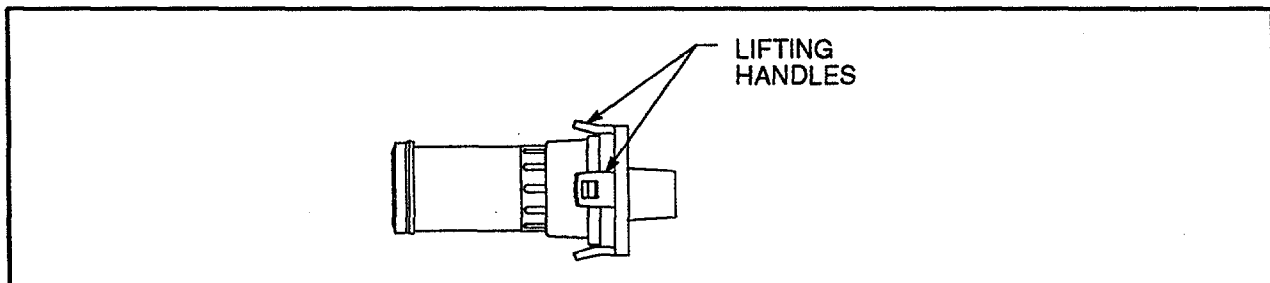

Figure 1
- 2.2 Lift the mixer from its crate by the three cast-in lifting handles provided (see Figure 1).